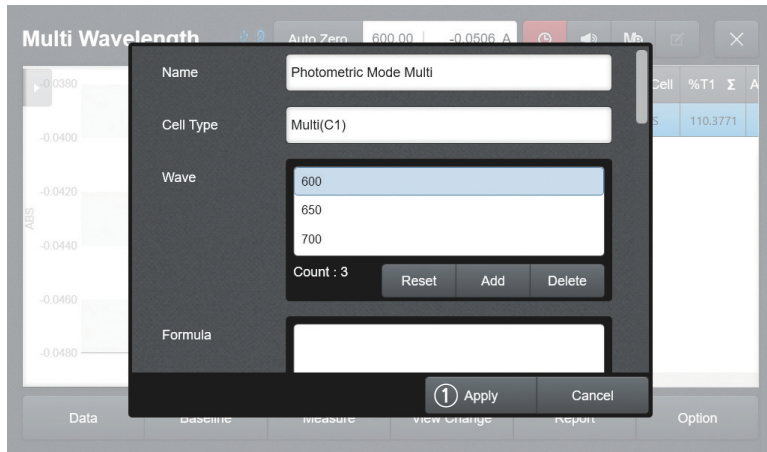

Fig. 3.16
3. [Fig. 3.16] Select and enter the Name, Cell Type, Wavelength, Factor, Formula, Unit, Memo and View Change, then press ① **Apply**